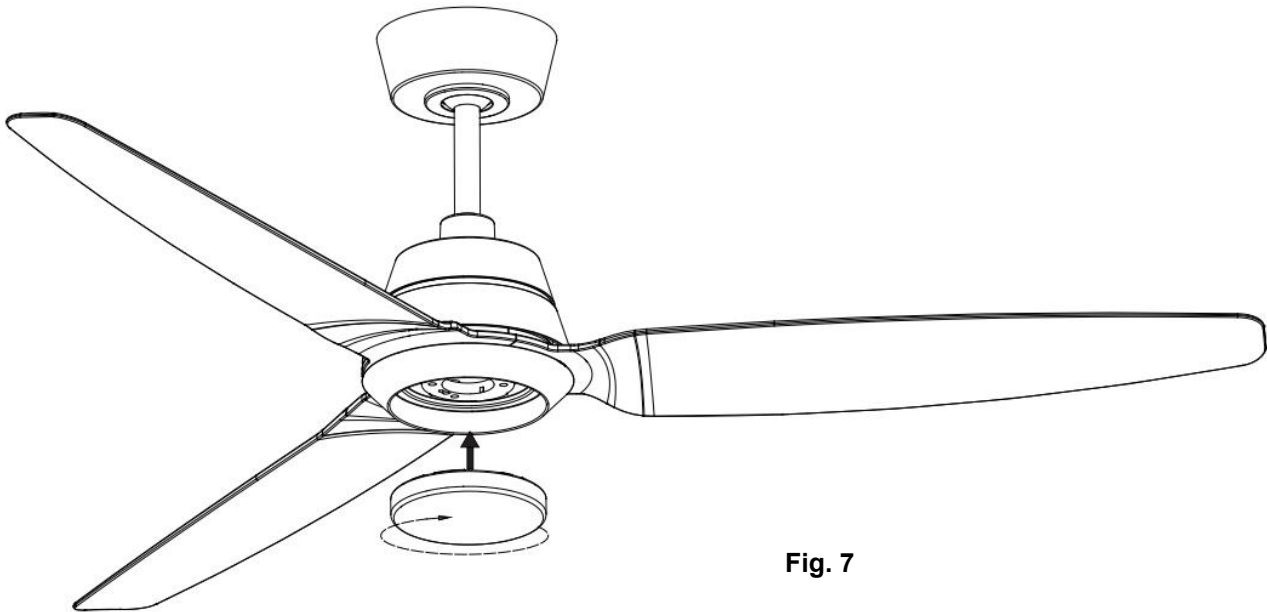

Fig. 7
INSTALLATION OF LAMP (Fig. 7)
- Install the lamp on the fan assembly then secure it by turning clockwise. (Fig. 7)